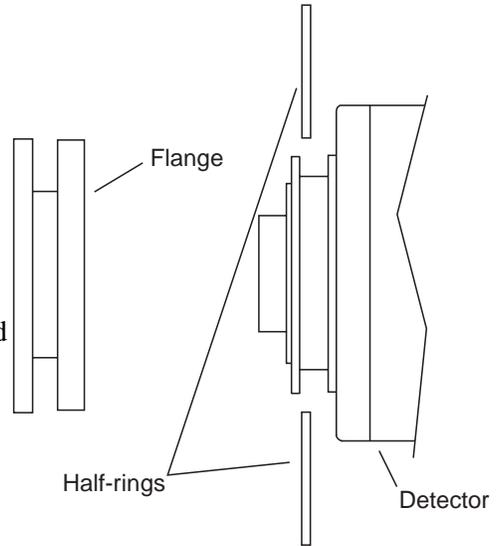

Figure 5. Shallow Focal Plane Spectrograph Mounting Hardware
1. Mount the flange to the detector using the two half-rings and the screws provided. Note that the tapered side of each half-ring faces the adapter (Figure 5).